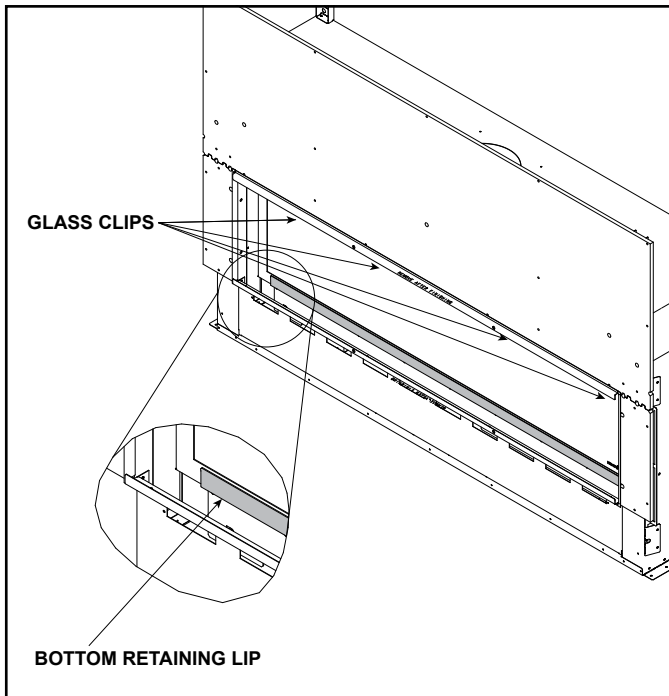

Figure 4.1 Fixed Glass Assembly
3. Locate the glass spring latches that are on the upper edge of the glass frame of the appliance. See Figure 4.1.
4. Use both index fingers to release spring latches. See Figure 4.1.